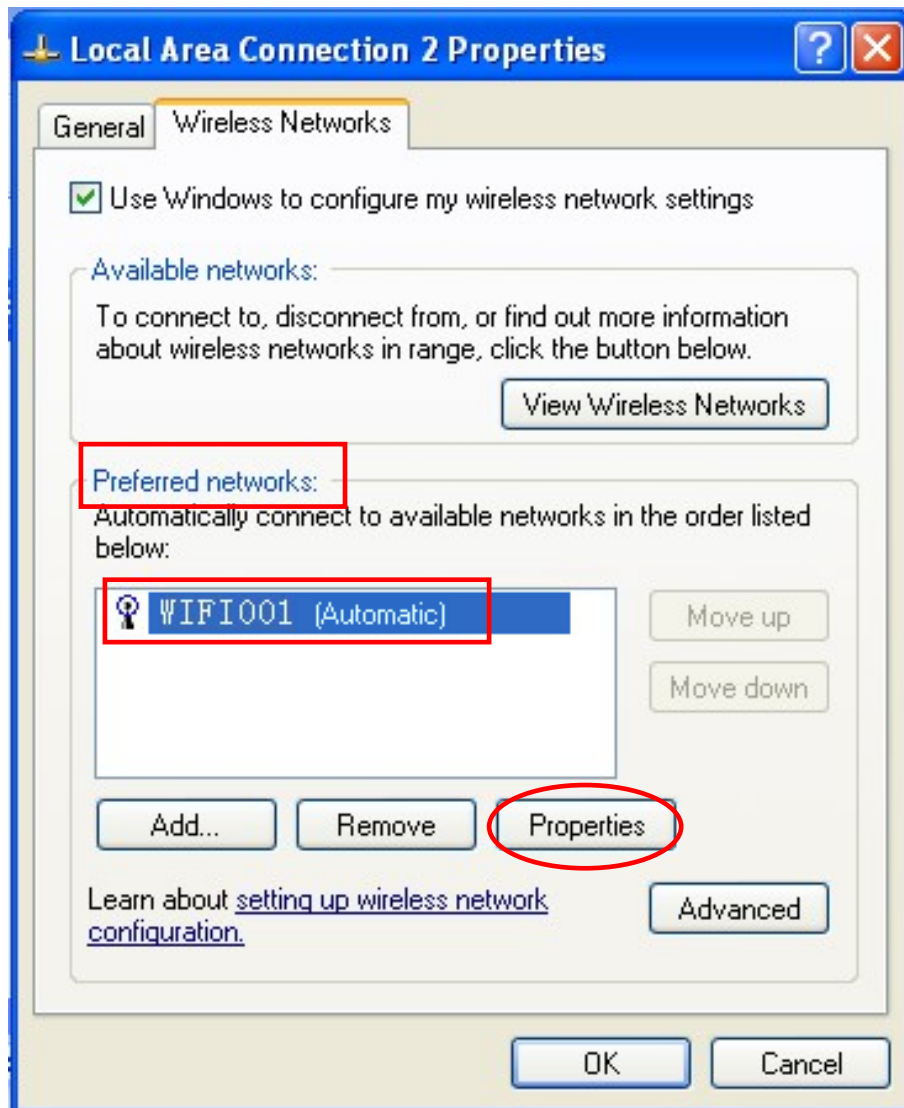

Figure 11
- ④ Select the current wireless network name in “Preferred networks” and then click “Properties” (as shown in Figure 11)